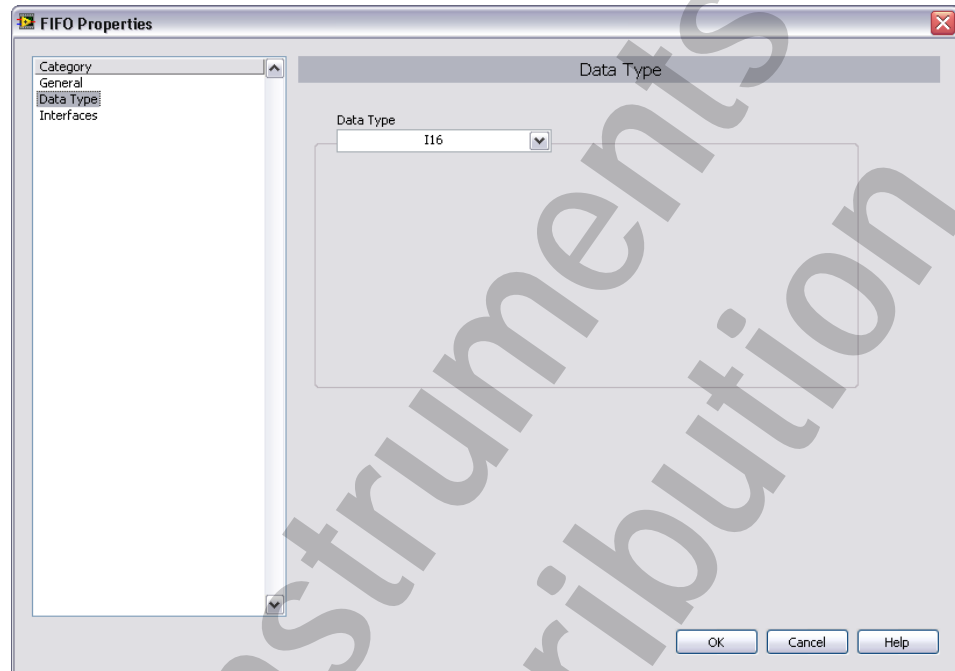

Figure 9-2. Analog Input DMA Properties – Data Type
- ☐ Select the **Data Type** category and configure settings as shown in Figure 9-2.